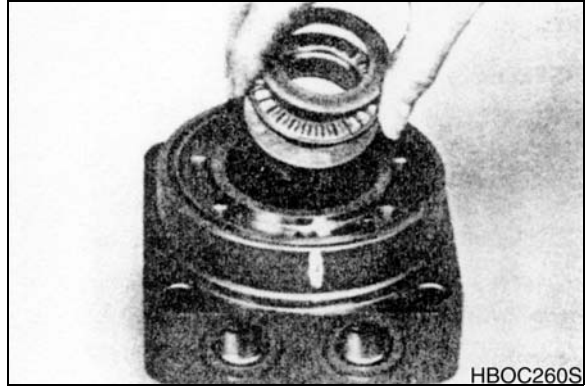
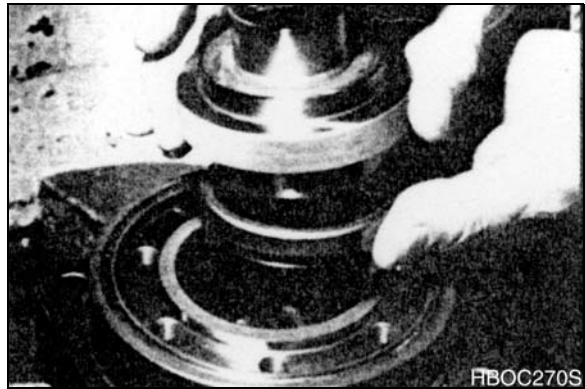

Figure 40
Figure 41
The Large Frame Series MB and ME Torqmotor™ housing (18) requires that you assemble a new backup washer (25), new seal (16), with the lip facing to the inside of Torqmotor (see figure 69A), new thrust washer (14), new thrust bearing (15) and a new second thrust washer (14) in that order before pressing in the inner housing bearing (13). See Figure 39 and Figure 40. When these components are in place, press new bearing (13) into the housing (18) to a depth of 0.105/0.125 inches (2.67/3.18) below the housing wear plate contact face. Use the opposite end of the bearing mandrel used to press in outer bearing (19). Reference figure 2, in the "Tools and Materials - Required for Servicing" section. See Figure 41.